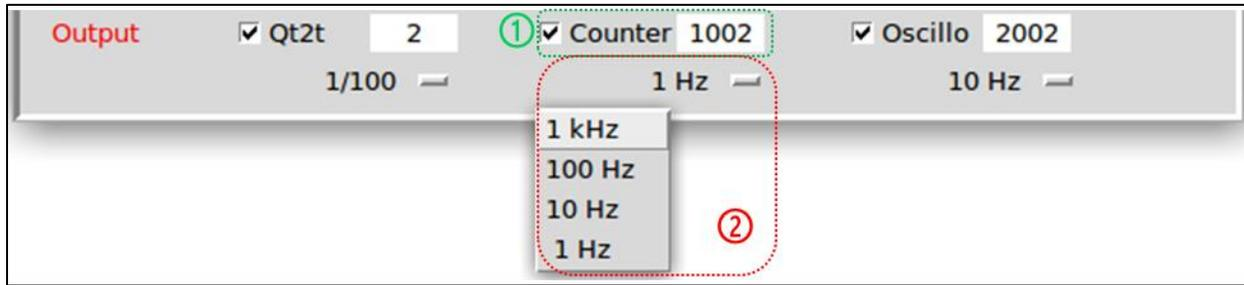

Figure 28: out frequency of the “Counters” data
By enabling the “Counters” output (cf. Figure 28 ①), the experimenter can store and display the counting data, called “Counters” with a selected frequency of 1 Hz, 10 Hz, 100 Hz and 1 kHz (cf. Figure 28 ②).